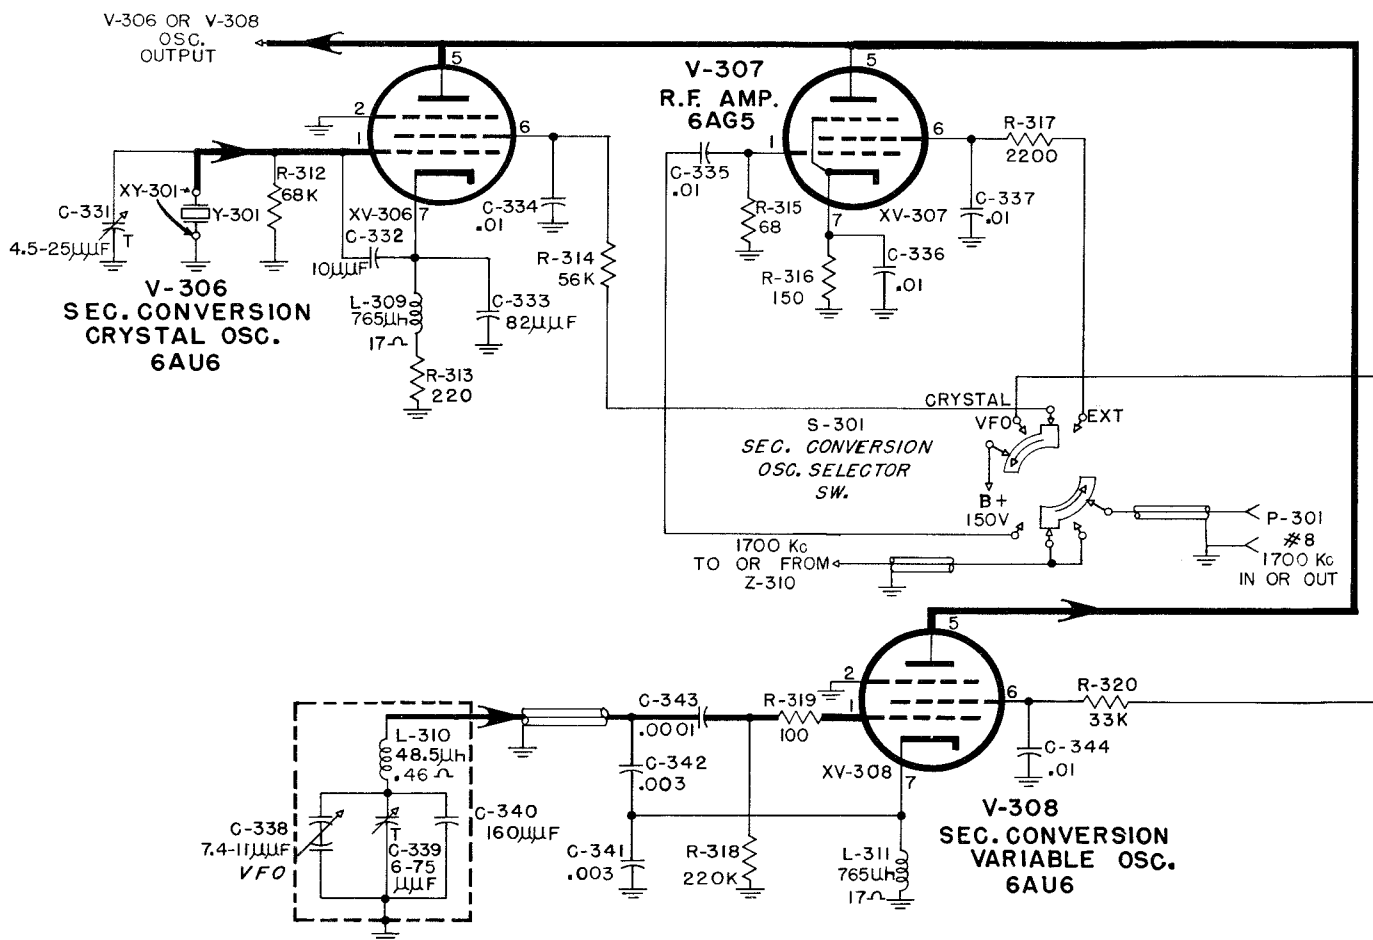

Figure 2-12. Second Conversion Crystal Oscillator Stage V-306, Variable Oscillator V-308 and R.F. Amplifier V-307, Simplified Schematic Diagram
(3) SECOND CONVERSION CRYSTAL OSCILLATOR CIRCUIT (CV-126/FRR-24). (See Figure 2-12).—The second conversion crystal oscillator V-306, a type 6AU6 tube, is an electron-coupled type of circuit. A tuned circuit made up of inductor L-309 and capacitor C-333 is placed in the cathode to obtain the proper R.F. potential in the cathode relative to the grid and screen so that oscillation will result. The cathode potential is obtained in a voltage divider circuit composed of the tubes grid-to-cathode circuit capacity and C-332 in series with the cathode-to-chassis tuned circuit capacitive reactance at the oscillating frequency. The crystal Y-301 comprises the main tank circuit across which these impedances are shunted. Due to the fact that the resonant frequency of the cathode tuned circuit is lower than the crystal frequency of 1700 kilocycles the cathode-to-chassis circuit presents a capacitive reactance at the crystal frequency, thus completing the capacity voltage divider across the crystal. Plate voltage is applied from
(4) SECOND CONVERSION VARIABLE OSCILLATOR CIRCUIT (CV-126/FRR-24). (See Figure 2-12).—The second conversion variable oscillator V-308 employs a type 6AU6 tube in a highly stable oscillator circuit. The oscillator tuned circuit consists of C-338, C-339 and C-340 in series with L-310, C-342 and C-341. The voltage drop across C-342 and C-341 provide the feedback necessary for oscillation. Capacitors C-342 and C-341 are very large in comparison to C-338, C-339 and C-340 thereby causing very loose coupling between the tube and the tuned circuit and providing a very high 'Q' circuit. The
(5) SECOND CONVERSION R.F. AMPLIFIERS (CV-126/FRR-24).—R.F. Amplifier V-307, a type 6AG5 tube, is used to amplify the incoming remote oscillator voltage before application to the second converter. See Figure 2-12. The external oscillator is capacitively coupled to the grid of V-307 through capacitor C-335. Resistor R-315 is employed as a load for the incoming oscillator signal. Cathode bias is developed across resistor R-316 bypassed by capacitor C-336. Plate and screen voltages are supplied from voltage regulator V-312. Plate voltage is applied through resistor R-324 and the primary winding of Z-309 bypassed by capacitors C-347A and C-348. Screen voltage is applied through resistor R-317 bypassed by capacitor C-337.